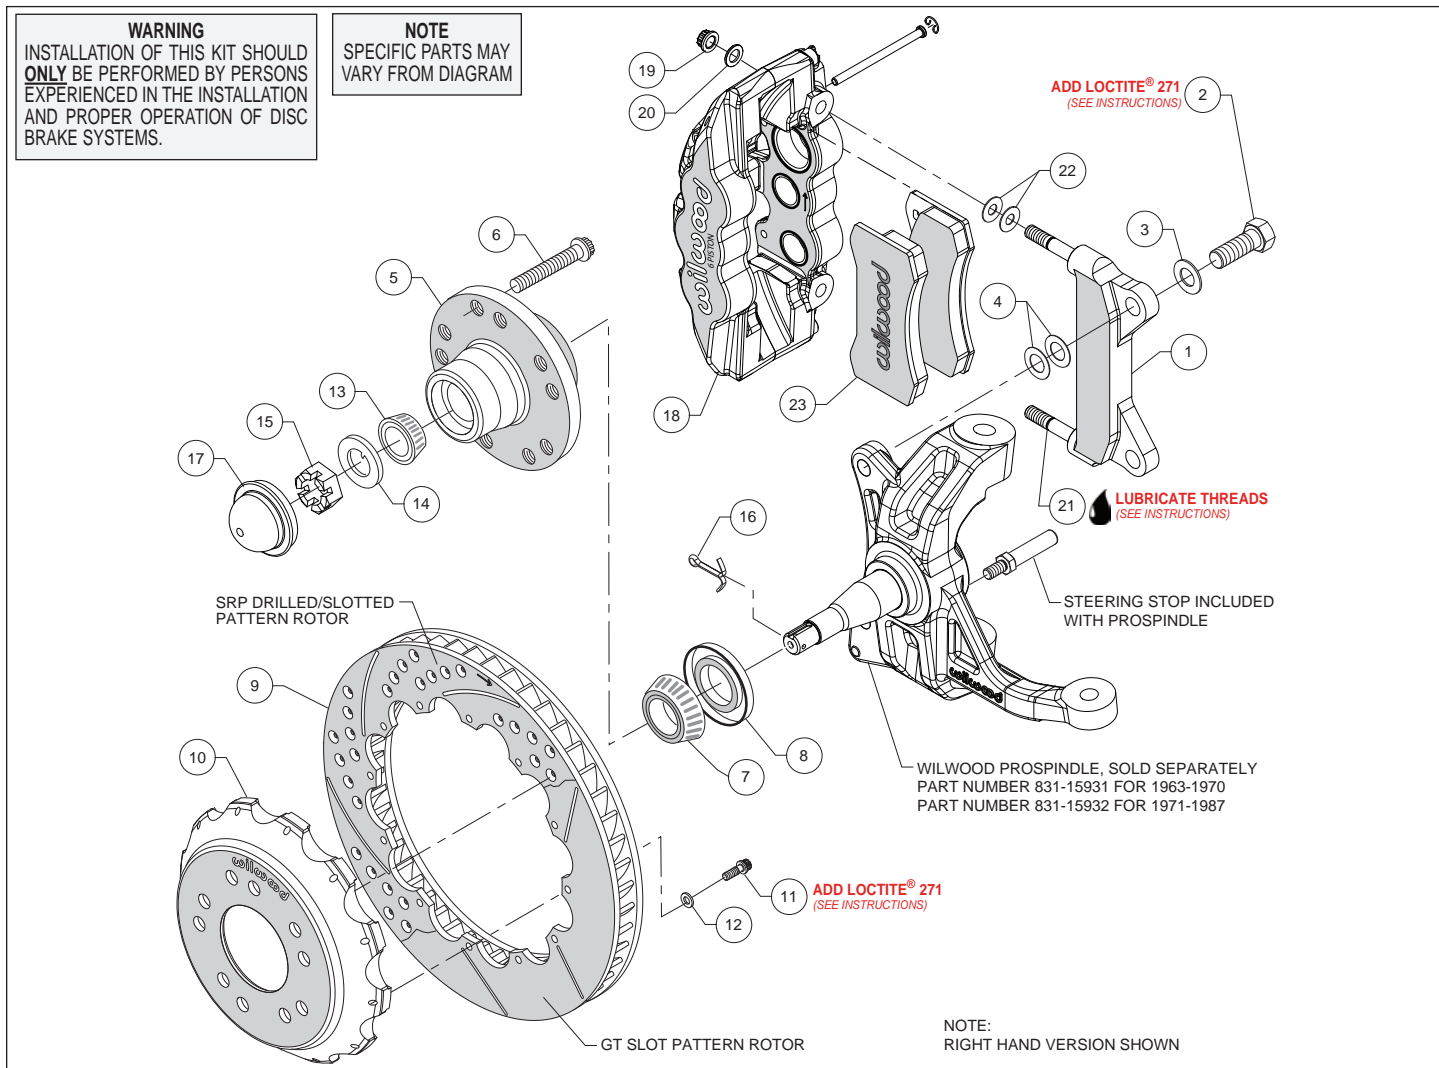
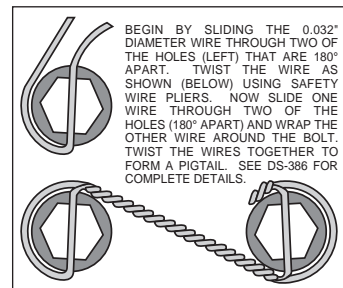

Figure 1. Typical Installation Configuration
Figure 3. Safety Wire Diagram
Assembly Instructions (numbers in parenthesis refer to the parts list and Figure 1 on the preceding pages):
- Install the steering stop bolt (included with the ProSpindle) into the spindle as shown in Figure 1 and Photo 1. Torque to 25 ft-lbs.
- The caliper mount bracket (1) should initially be installed with clean, dry threads on the mounting bolts. Orient the bracket, as shown in Figure 1 and Photo 2, and install using bolts (2) and washers (3). Initially place two .024" thick shim (4) on each bolt between the bracket and spindle, Figure 1. Temporarily tighten the mounting bolts. **NOTE:** *The bracket must fit squarely against the mount bosses on the spindle.* Inspect for interference from casting irregularities, machining ridges, burrs, etc. Later, after the caliper alignment has been checked, the mount bolts will be secured using red *Loctite*[®] 271.
- Install wheel studs (6) into the hub (5), Photo 3. Torque to 77 ft-lb. **NOTE:** *There are two five lug patterns in the hub (5 x 4.75 and 5 x 5.00).* Ensure the correct hub stud pattern is being used to fit the wheel application.
- Pack the small outer bearing cone (13) with high temperature disc brake bearing grease and install into hub (5). Slide the hub assembly onto the spindle. Secure using spindle washer (14) and spindle nut (15), Photo 6. Adjust bearings per OEM specifications. Install a new cotter pin (16).
- Press the dust cap (17) into the hub (5). **NOTE:** *Do not hammer center of cap. Install using outer flange only.*
- Orient the rotor (9) and the hat (10) as shown in Figure 1 and Photo 7. Attach rotor to hat using bolts (11) and washers (12). Using an alternating sequence, apply red *Loctite*[®] 271 to the threads, and torque to 155 **in-lbs**. For an added measure of security, the bolts may be safety wired using standard 0.032 inch diameter stainless steel safety wire as shown in Figure 3. Refer to Wilwood's data sheet DS-386 (available at www.wilwood.com/Pdf/DataSheets/ds386.pdf) for complete safety wire installation instructions.
the caliper and the bracket, as shown in Figure 1 and Photo 9. Mount the caliper (18) onto the bracket (1) using lock nuts (19) and washers (20), Figure 1. Temporarily tighten the lock nuts. Ensure that the caliper is mounted so that the largest pistons are at the rotor exit end of the caliper, in relation to the direction of rotor rotation. View the rotor through the top opening of the caliper. The rotor should be centered in the caliper, Photo 10. If not, adjust by adding or subtracting shims (4) between the bracket and the spindle. Always use the same amount of shims on each of the two mounting bolts. Once the caliper alignment is correct, remove the bracket mounting bolts one at a time, apply red *Loctite*® 271 to the threads, and torque to 140 ft-lb.
- Remove the caliper (18), then remove the two pad retaining pins from the caliper by carefully popping out the pin retaining clips and sliding out the pins. Insert the brake pads (23) into the caliper from the bottom, Figure 1 and Photo 11. With the friction material facing the rotor, secure the brake pads in place with the pad retaining pins and clips, Photo 12. Reinstall the caliper onto the caliper mounting bracket and temporarily tighten the lock nuts. Check that the top of the brake pad is flush with the outside diameter of the rotor, Photo 13. If not, adjust by adding or subtracting shims (22) between the caliper and the bracket. After the caliper pad height is set, torque the caliper lock nuts (19) to 47 ft-lb.